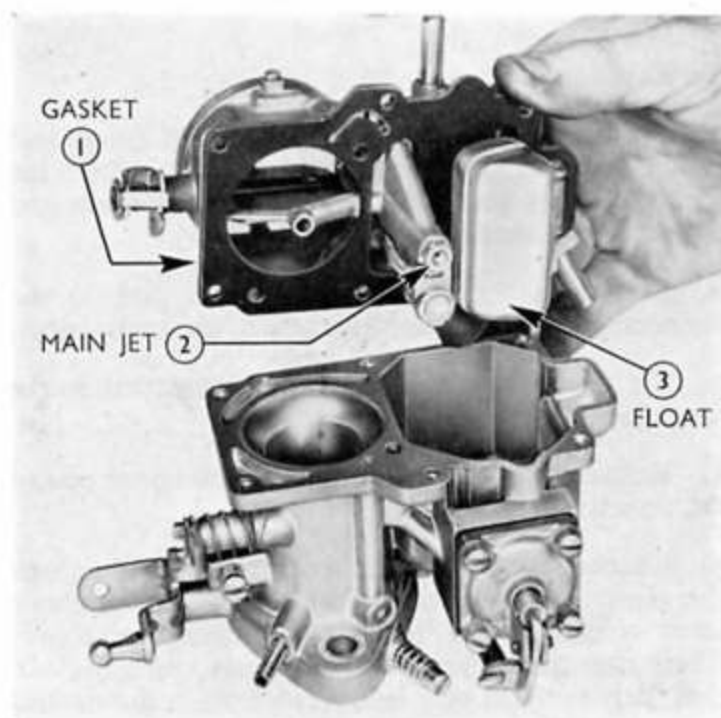

Fig. 27
1. Remove the six screws and spring washers securing the carburettor upper body to the lower body. Carefully lift off the upper body (see Fig. 27) and unlatch the choke link at the same time. The gasket should come away with the upper component and care should be exercised to see it is not adhering to the lower body.